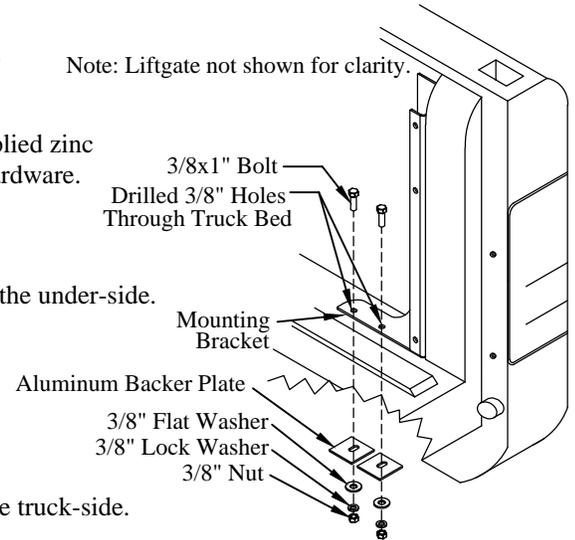

Figure 9: Mounting bracket and backer plates.
9. **Fasten** each bracket to the truck box using the supplied (Figure 9):
- (2) backer plates, (2) flat washers, (2) lock washers, and (2) hex nuts on the under-side.
10. **Drill** one (1) 3/8" hole into the truck corner post using hole in the bracket as a guide (Figure 9).